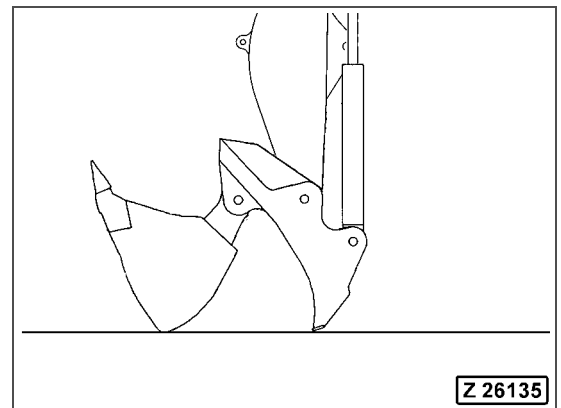

Fig. 5-118
2. Park the machine on the prepared flat area with the superstructure turned by 90° and position the bucket on the ground as shown (Fig. 5-118), bucket cylinders in vertical position.